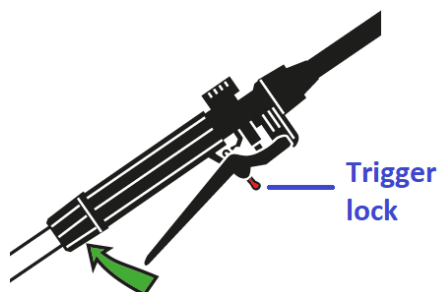

Fig. 4a
- Pull the trigger (17) on the handle (16) to start spraying. Lock the trigger by the trigger locker for continuous spraying. Refer to Fig. 4a.